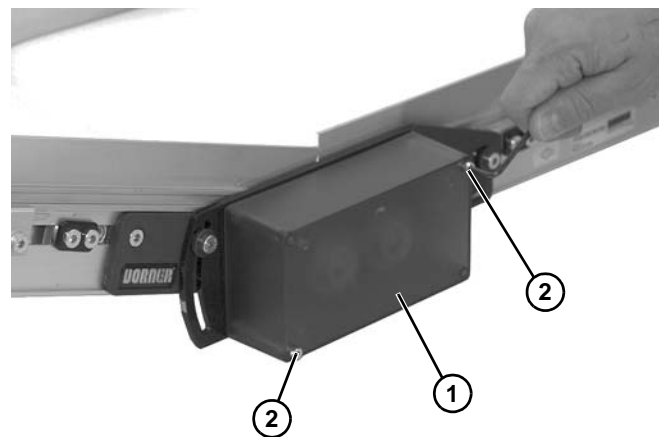

Figure 83
- Install cover (**Figure 83, item 1**) and two screws (**Figure 83, item 2**). Tighten screws enough to secure cover.